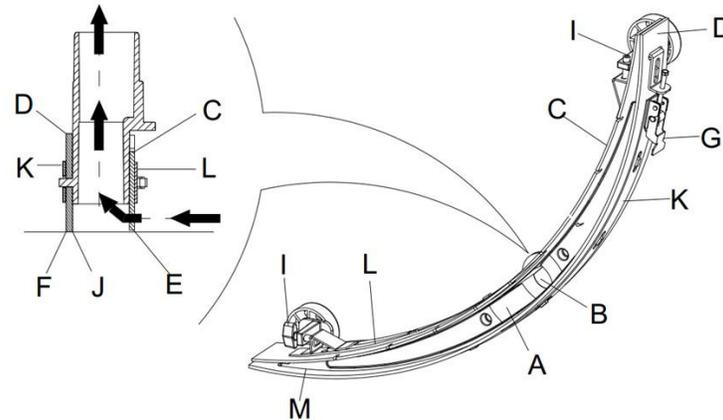

Figure 10
2. Press the power switch (38) to the "O" position to turn off the machine.
3. Unscrew the squeegee knobs (16); remove the vacuum hose from the squeegee assembly & remove squeegee.
4. Use the squeegee lift handle (14) to lift the squeegee mount bracket.
5. Using a damp towel, clean the squeegee (Figure 10). Clean in particular the groove (A, Figure 10) and the dirt and fragments on the vacuum tube. Check if the front squeegee blade (C) and the rear squeegee blade (D) are intact, and if there are broken edges and cracks. Replace them if necessary (refer to the steps in the following section).
1. Following the methods related in the previous section clean the squeegee (Figure 10)
2. Check the edge (E, Figure 10) of the front squeegee blade and the edge (F) of the rear squeegee blade (D). On the whole length, they should be level. Otherwise, adjust their heights through the following procedure.
- Loosen the clip (G) to let the rear squeegee blade (D) separate from the bracket (M) for the adjustment of the position of the squeegee. After the adjustment, lock the clip once again.
- Loosen the screw on the handle (I) to adjust the front squeegee blade (C); tighten the handle screw after adjustment.
3. Check if the front squeegee blade (C) and the rear squeegee blade (D) is intact and if there are broken edges and cracks. If damage is found, change them according in the following way. If the front edge of the rear squeegee blade (J) has worn, it can be flipped upside down and re-installed (the top edge is required to be intact). If the top edge is also worn, change it by following the procedure below:
- Loosen the clip (G) to let the pressure blade separate from the bracket (M), take off the clip bar (K), and then change or turn the rear squeegee blade (D) upside down. Re-install the rear squeegee blade in the reverse order of taking it off.